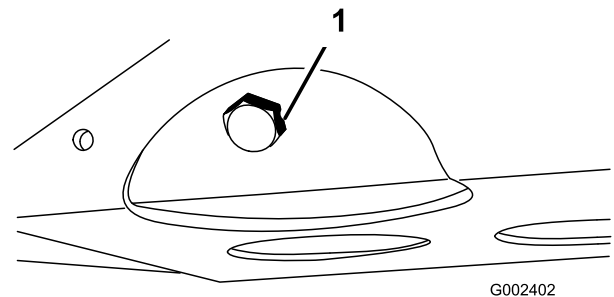

Figure 46
2. Remove the drain plug and let oil flow into a drain pan (Figure 46). When the oil stops, install the drain plug.